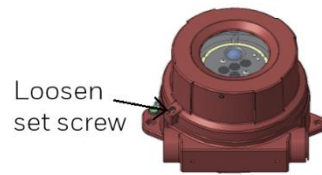

Figure 1
1. Loosen, but do not remove, the set screw on the enclosure lid as shown in Figure 1.
1. Loosen, but do not remove the set screw on the cover assembly as shown in Figure 1 in Opening the Detector section.
1. Loosen, but do not remove the set screw on the cover assembly. (See Figure 1)